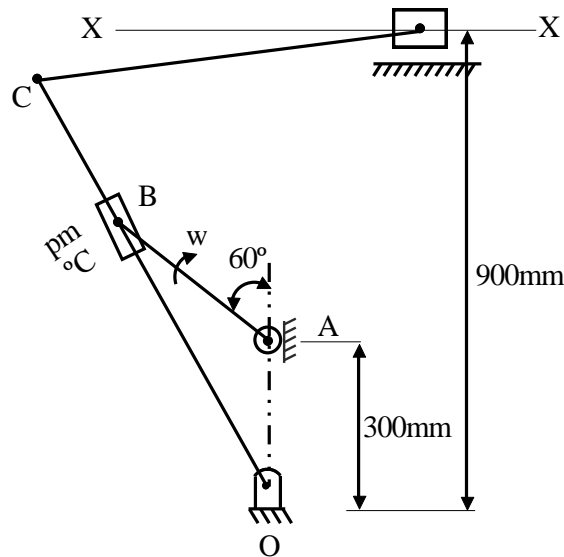

Fig. 3
3. In the crank and slotted lever type quick return motion mechanism as shown in fig. 3, the crank AB rotates at 120 r.p.m. Determine. 16